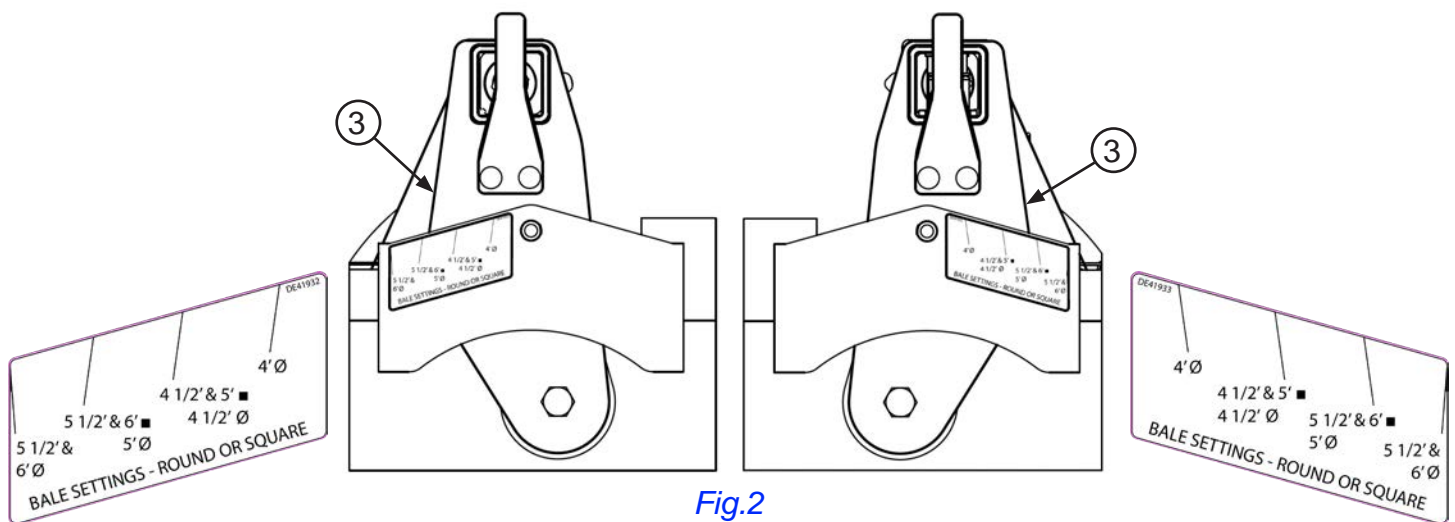

Fig. 2
1. Look at decals on front of wrapper for bale saddle position. See Fig.2.